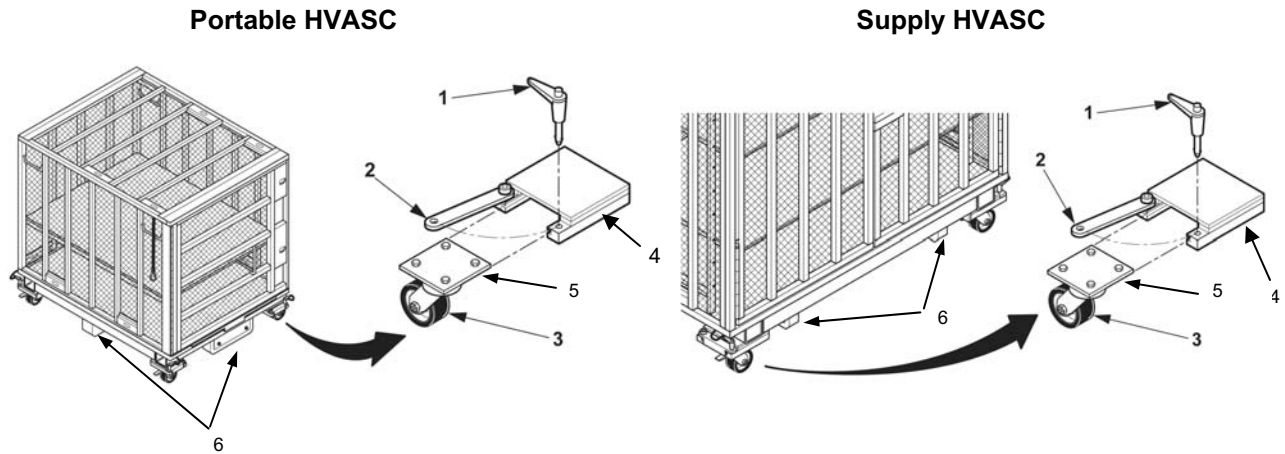

Figure 3-2. Replacing the Caster Assemblies.
5. Pull the release pin (Figure 3-2, Item 1) out of the caster receiver (Figure 3-2, Item 4) and swing the receiver gate (Figure 3-2, Item 2) open.
6. Grasp the mounting plate (Figure 3-2, Item 5) and pull the caster assembly (Figure 3-2, Item 3) free from the base of the cage.
7. Close the receiver gate (Figure 3-2, Item 2) on the caster receiver (Figure 3-2, Item 4) and replace the release pin (Figure 3-2, Item 1).
8. To remove all casters, follow steps 5-7 above. After all the casters have been removed, lower the cage so it rests on the skids (Figure 3-2, Item 6).
9. Once the casters have been removed and the cage is resting on the skids (Figure 3-2, Item 6), secure the caster assemblies (Figure 3-2, Item 3).